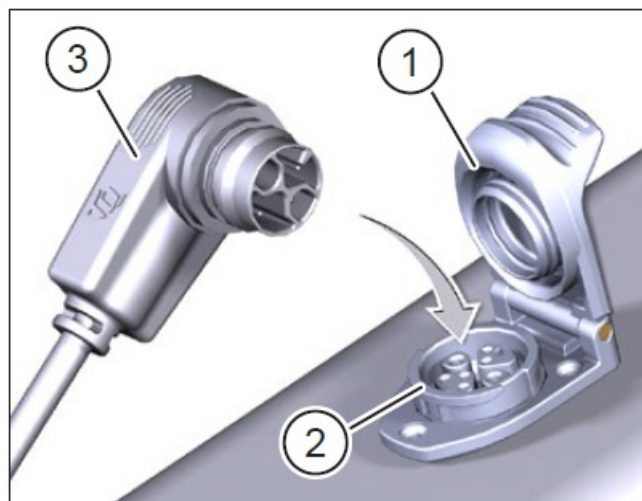

Fig. 1: Battery charging
- Unfold the cover (pos. 1 in fig. 1) on the charging port (pos. 2 in fig. 1) in the bike frame.
- Align the charging plug (pos. 3 in Fig. 1) of the charger or Range Extender so that the plug codes of the charging plug and charging port match (see Fig. 1). Insert the charging plug (pos. 3 in Fig. 1) of the charger or Range Extender into the charging port.